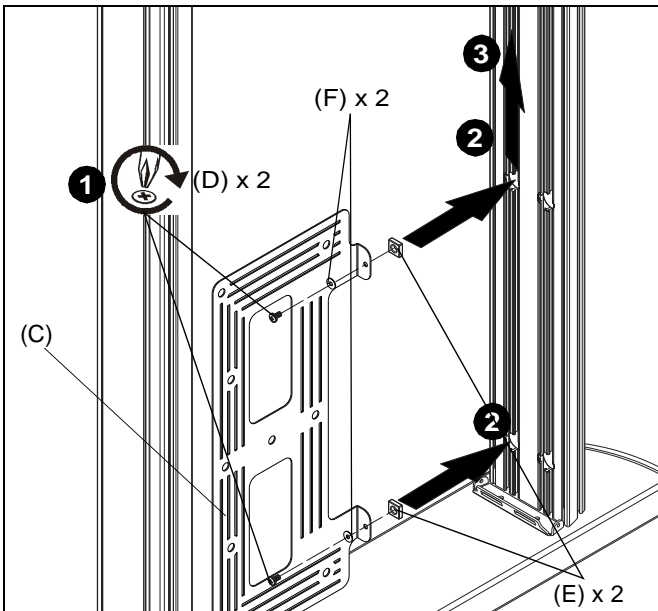

Figure 13
1. Loosely install two #10-24 x 3/8" Phillips head machine screws (D) through two #10 washers (F), holes in component bracket (C) and into two #10-24 square nuts (E). (See Figure 13)
2. Insert two #10-24 square nuts (E) into two openings on column channel. (See Figure 13)
3. Lift component bracket (C) to desired mounting position. (See Figure 13)
4. Tighten screws to secure in position. (See Figure 13)